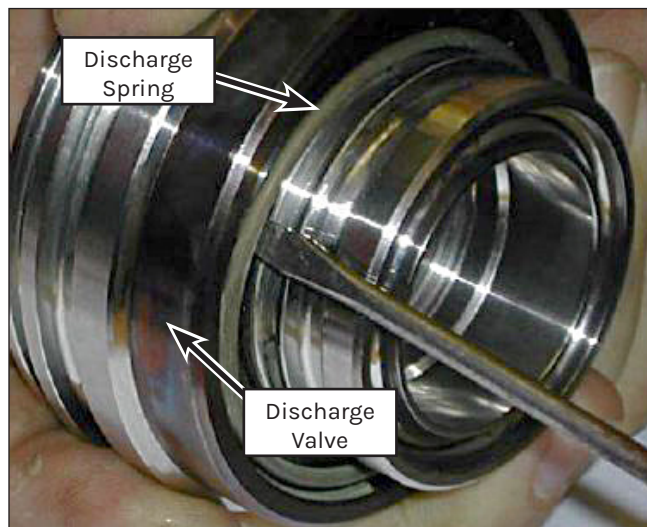

Figure 113: Discharge Spring and Valve Removal.
6. Insert a small screwdriver under the discharge spring (Figure 113). Carefully rotate the screwdriver until the spring releases from the groove.